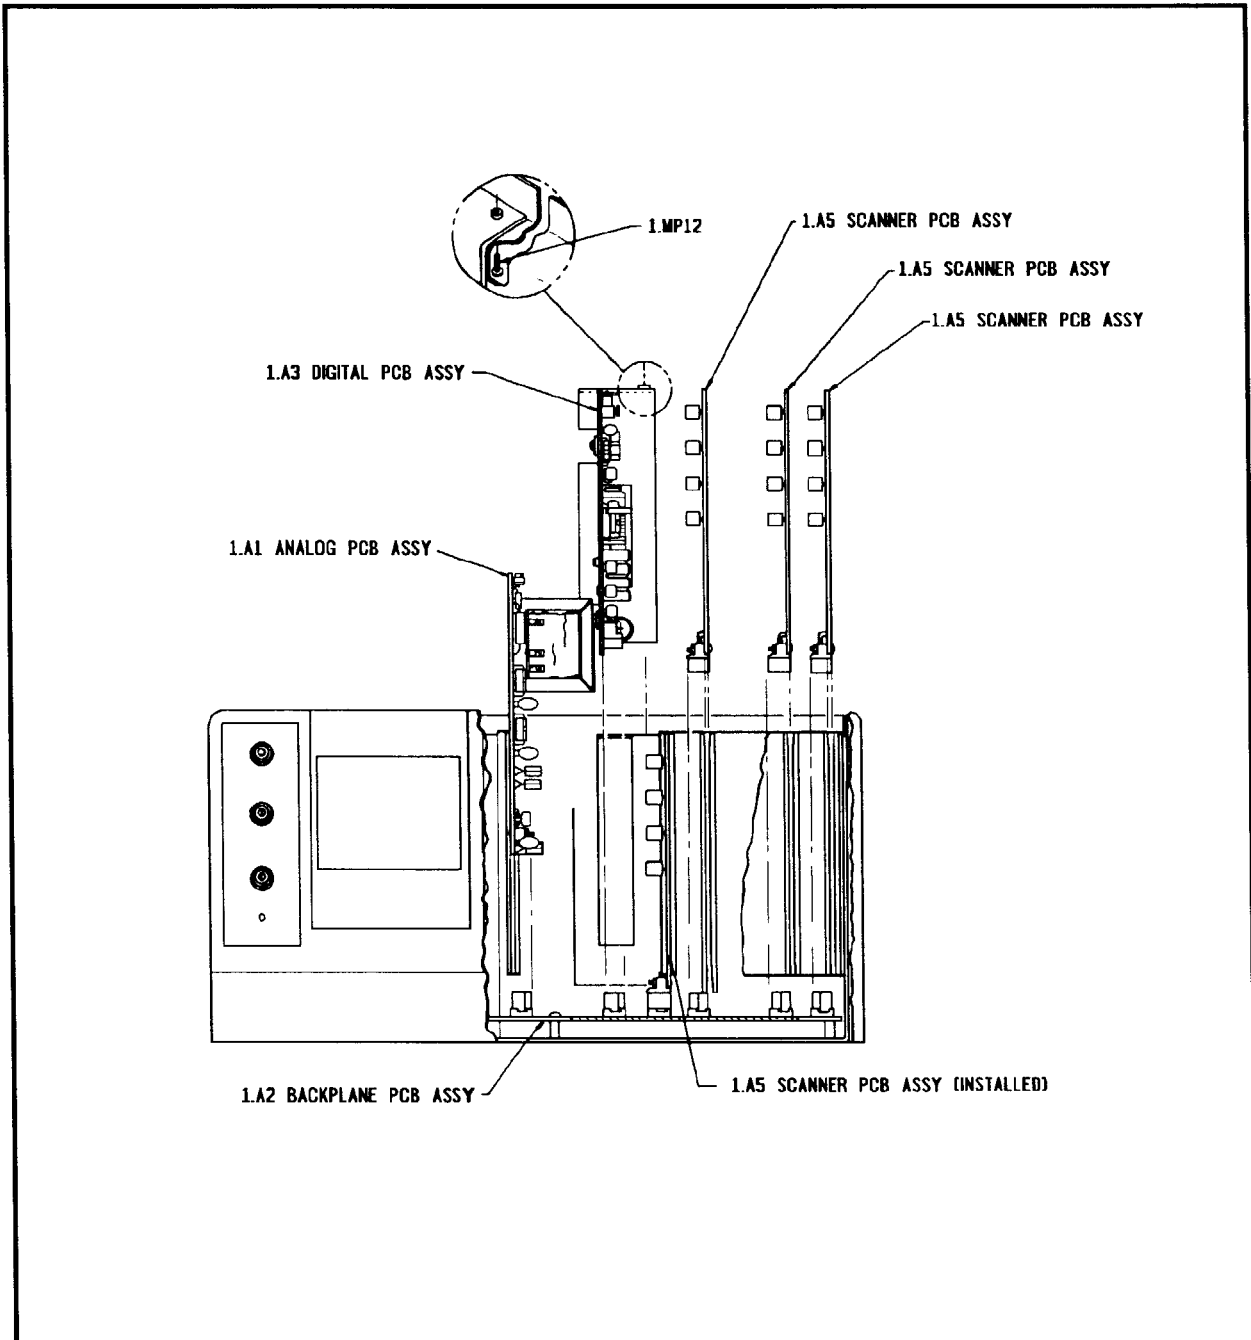

Figure 3-3. Analog, Digital, and Scanner PCB Removal.
3. Analog PCB Removal (refer to Figure 3-3)
4. Digital PCB Removal (refer to Figure 3-3)
5. Scanner PCB Removal (refer to Figure 3-3)
8. Scanner PCB Assembly (Figure 3-3)
9. Digital PCB Assembly (Figure 3-3)
10. Analog PCB Assembly (Figure 3-3)